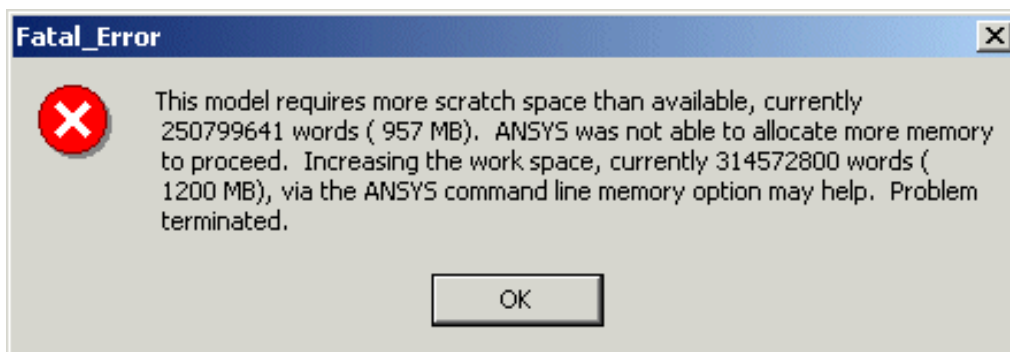

Figure 14. Memory Errors
8. **Repeat steps 1 to 7 with the newly corrected geometry from a new IGES file.** This time, the following error was encountered (see Fig. 14).